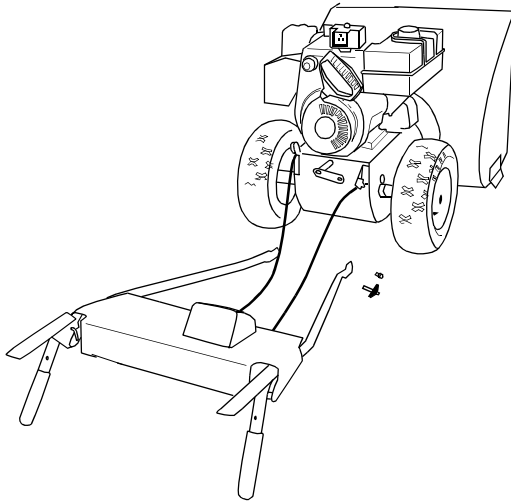

Figure 3
- Lay handle panel assembly behind snow thrower. See Figure 3.